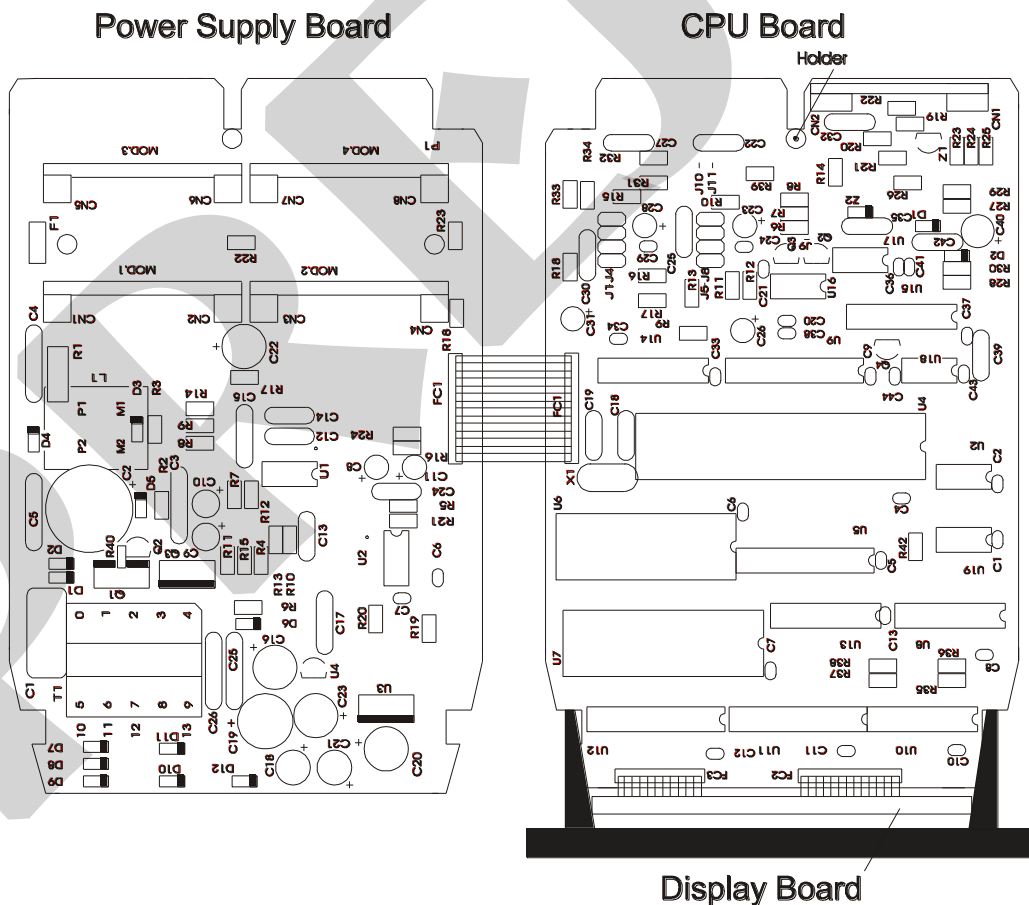

Figure 21 - Indicator hardware
- iv) Move the Power Supply Board to the right and open the boards according to Figure 21.